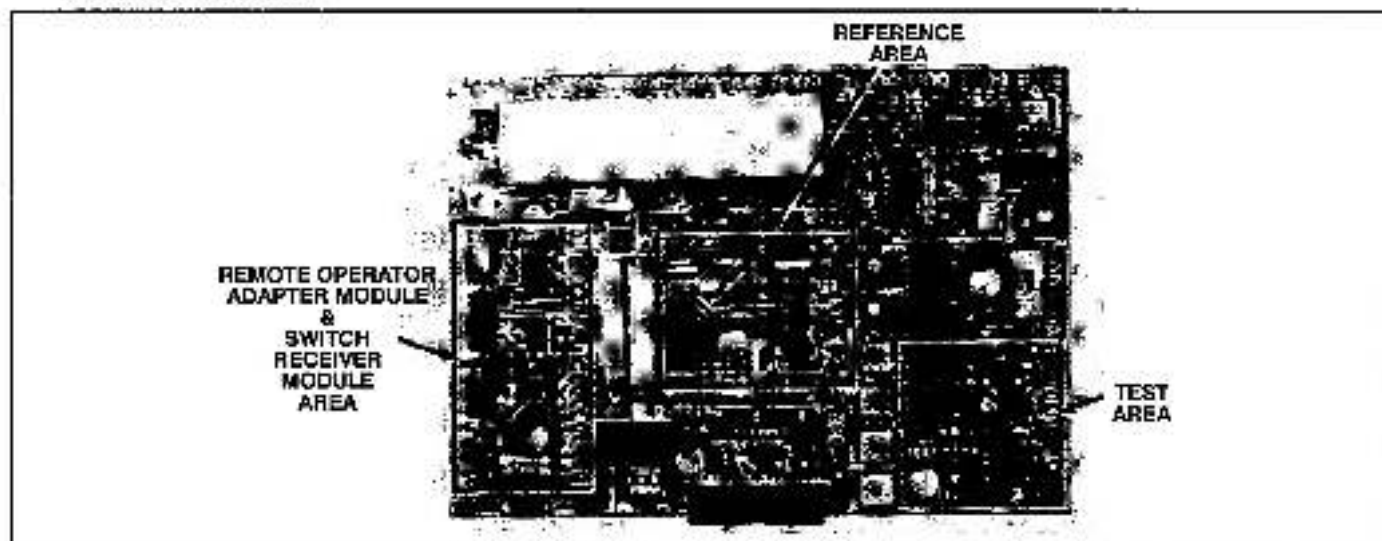

Figure 2 - Regulator Module Kit Locations
1. Orient the Test Meter Adapter Module over the area on the Regulator Module marked TEST, just over the nine pins. (Refer to Figure 2). Lower it so that the pins pass through the guides on the Module. Use the screw to secure it.